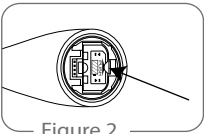

Figure 2
2. Hold on to both battery tray buttons to release it. (Figure 2)